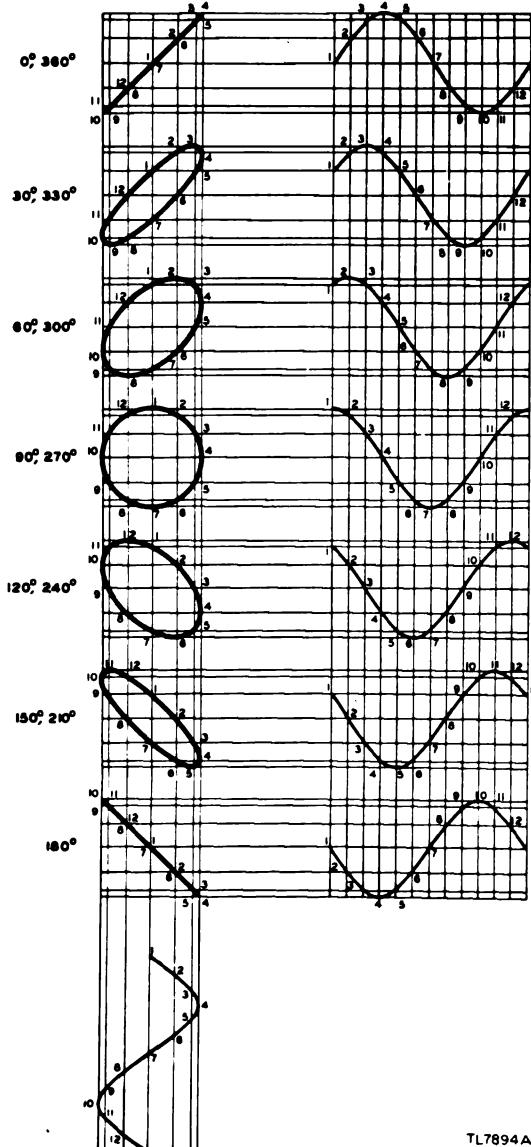

Figure 5. Lissajous figures for various phase differences.
b. The pattern obtained is a special type of Lissajous figure. The way in which phase difference is indicated is shown in figure 5. The phase angle cannot be read directly except at 0° , 90° , and 180° . This method of measurement is chiefly useful in adjusting a phase-shifting circuit so that the output is exactly in phase, or 90° or 180° out of phase, with a reference waveform.